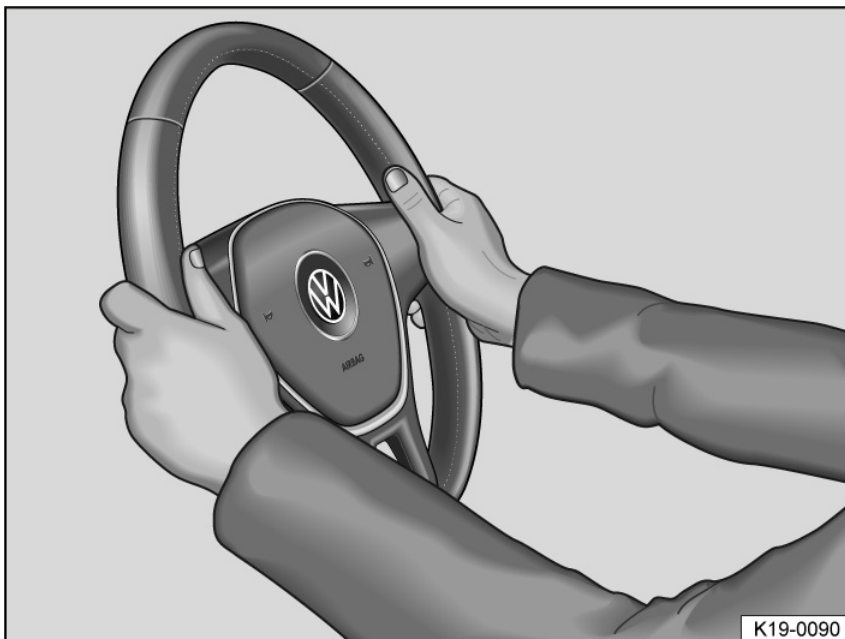

Fig. 66 On the steering wheel: nine o'clock and three o'clock position.
- Adjust the steering wheel so that it can be firmly held at the outer edge with both hands at the *nine o'clock and three o'clock position* fig. 66.
and three o'clock position fig. 66.